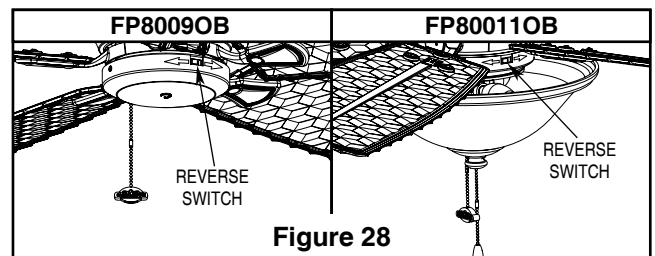

Figure 28
- ☐ 3. If airflow is desired in the opposite direction, turn the fan off and wait for the blades to stop turning. Then slide the reverse switch to the opposite position and turn fan on again. Your fan model is equipped with a 4-position, 3-speed, pull chain switch. (Figure 28)